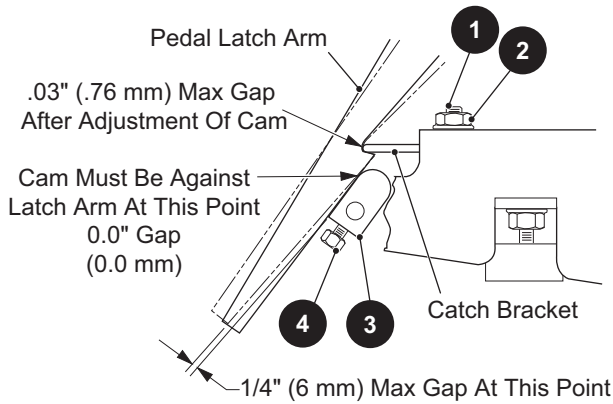

Figure 28 Catch Bracket and Latch Arm
Remove the two bolts (1) and nuts (2) which secure the catch bracket. Replace the catch bracket with a new one, replace and tighten the hardware to 85 - 95 in. lbs. (10 - 11 Nm) torque (Figure 28).